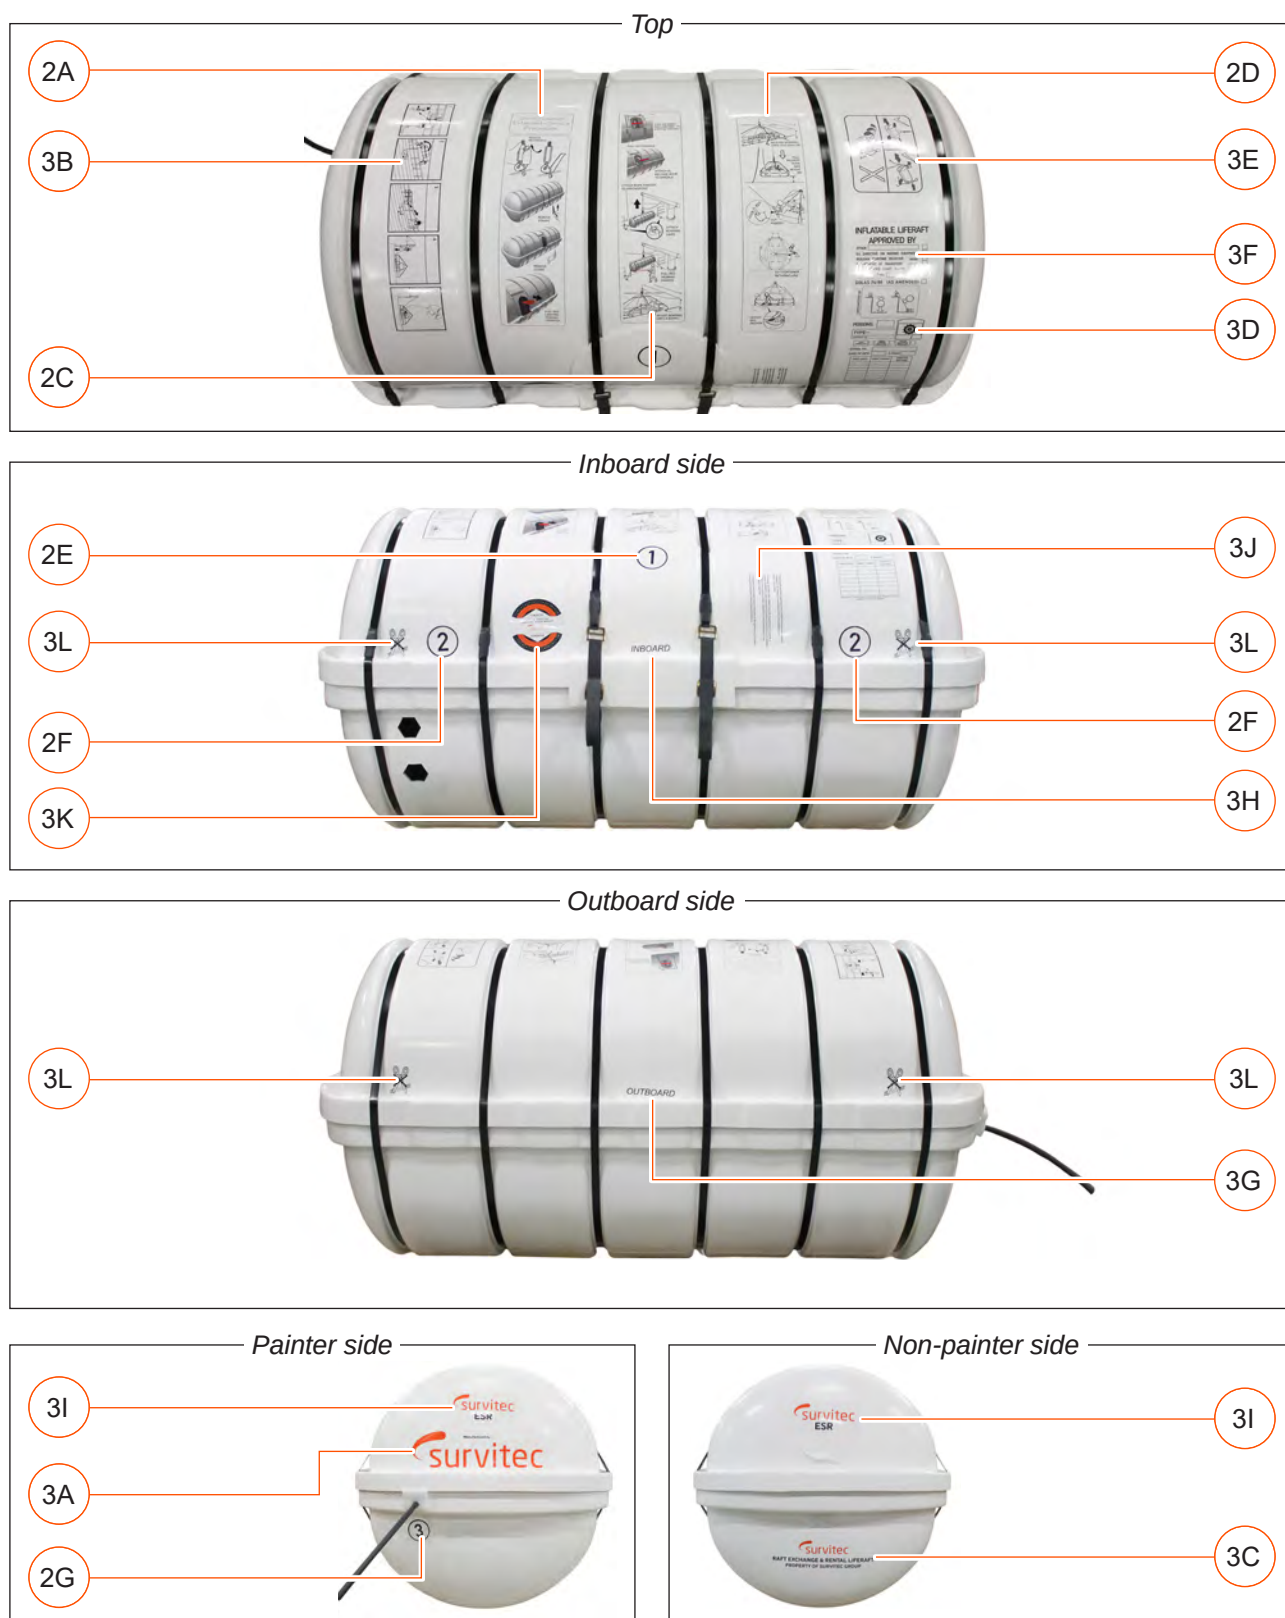

Figure 27
- Mk 14 size 14. Refer to **Figure 27** for label positions.